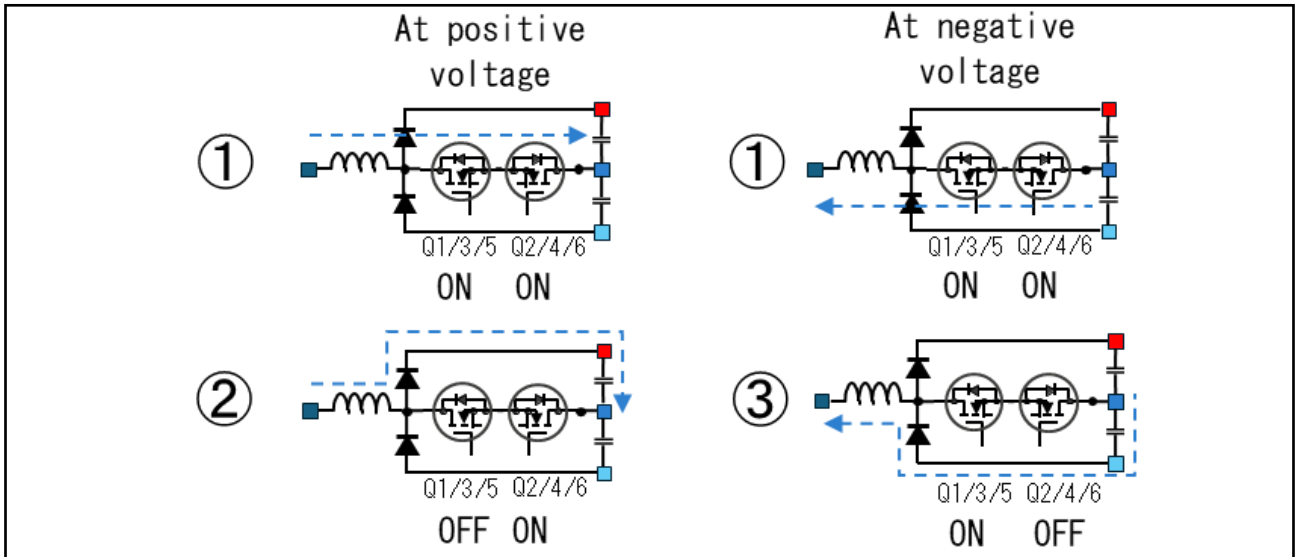
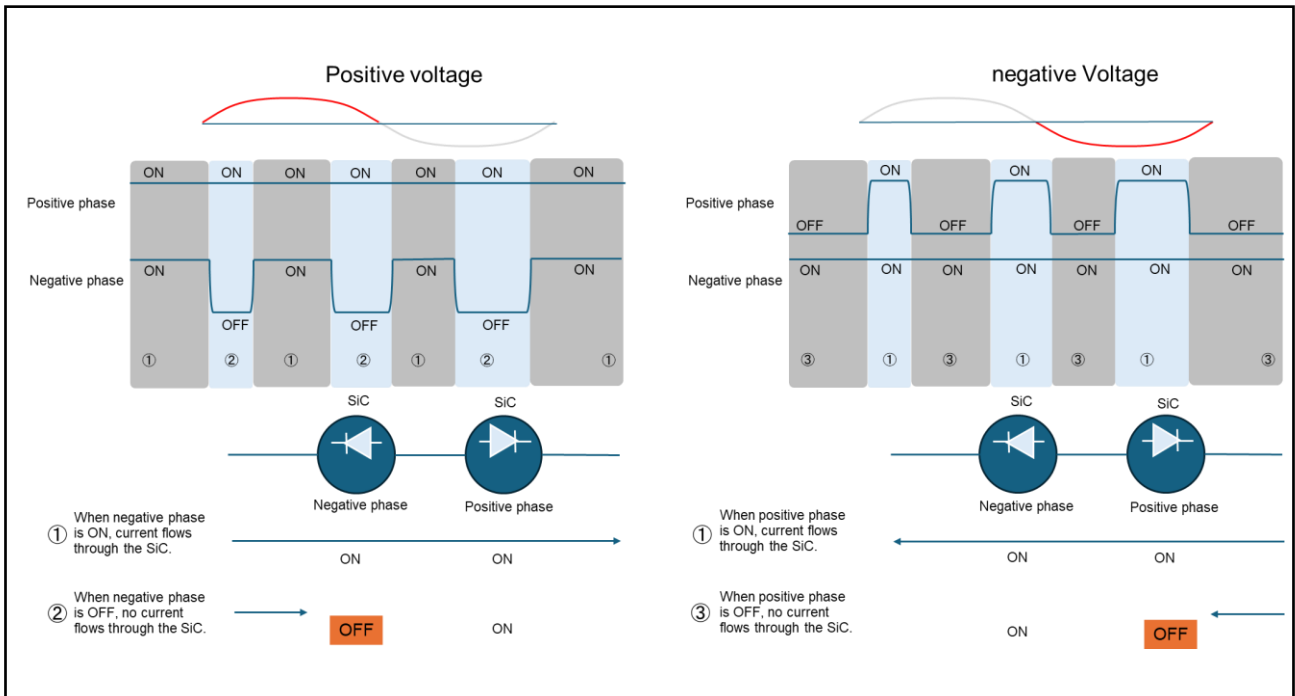

Figure 2 Outline of Vienna PFC Operation
Figure 3 Vienna PFC Switching Operation and Current Direction Image
The Vienna PFC controls current flow through two operating modes: positive voltage and negative voltage, as shown in Figure 2. During positive voltage, it consists of mode ② (Q1/Q3/Q5 OFF), where current flows through the diode, and mode ① (Q1/Q3/Q5 ON), where current flows through the SiC. The voltage in mode ② is E, and the voltage in mode ① is E/2. During negative voltage operation, the current direction reverses compared to positive voltage operation. It consists of mode ③ where current flows through the diode (Q2/Q4/Q6 OFF) and mode ① where current flows through the SiC (Q2/Q4/Q6 ON). The voltage in mode ③ is 0V, and the voltage in mode ① is E/2. Figure 3 shows the switching waveforms and current direction.